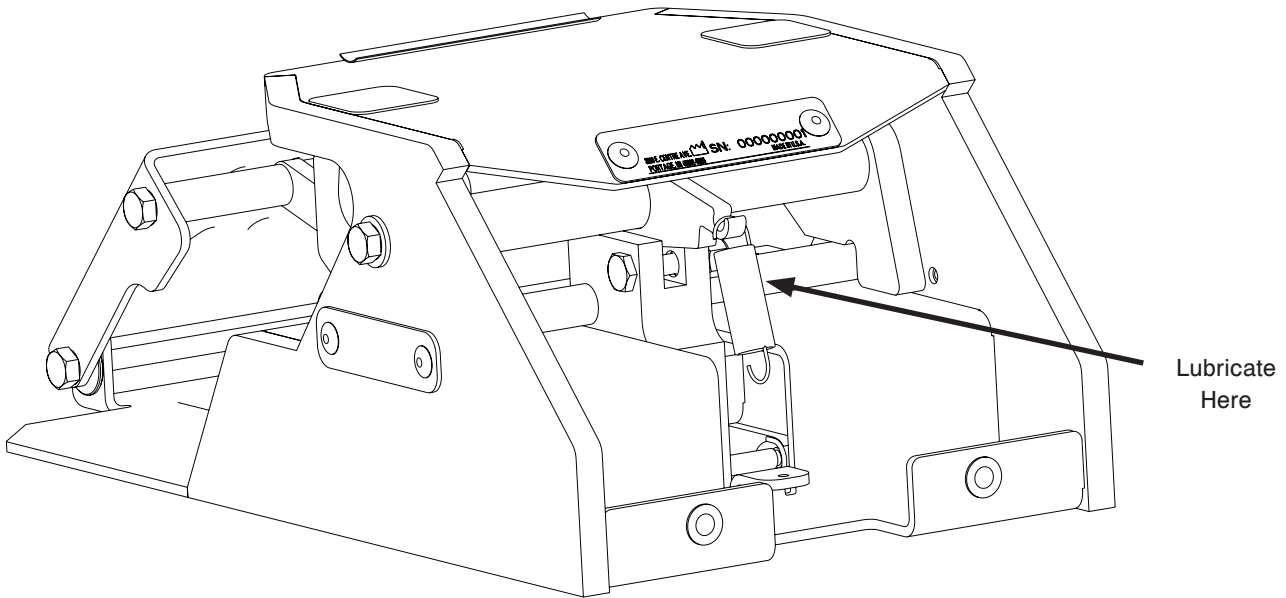

Figure 19 - Fastener Lubrication
2. Spray Tri-Flow® with Teflon® lubricant (Stryker part number 6082-199-012) onto the areas indicated with arrows in Figure 19.